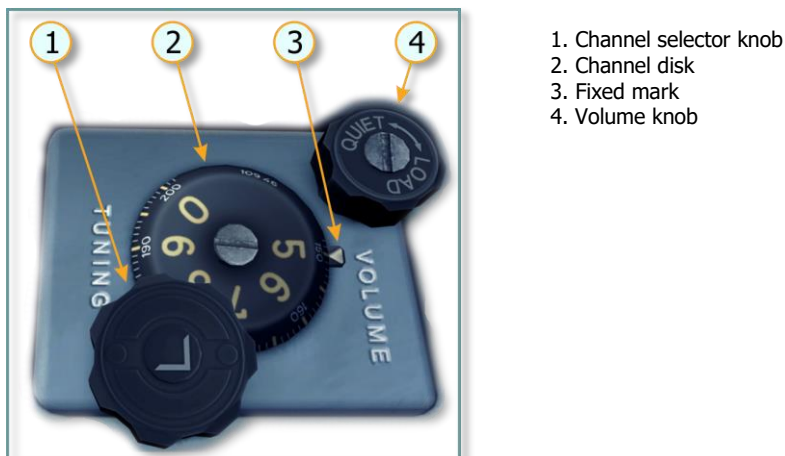

Figure 6.5. RSI-6M1 receiver remote control panel
The receiver remote control panel (RCP) (Figure 6.5), located on the left side, has to be used for tuning. It is connected with the receiver unit by electrical cable and flexible cable (needed to rotate the tuning disk):
3. Tune RSI-6K to airfield ATC shortwave (SW) frequency. To do that:
- b) Set the desired frequency by rotating the knob (Figure 6.5, 1) on the RCP with the mouse wheel (**[LShift + turn of mouse wheel]**)
will increase rotation by a factor of 10), which corresponds to airfield ATC (Table 6.2). The wave number is displayed on the RCP's channel disk, below the fixed mark (Figure 6.5, 3), or on the kneeboard: